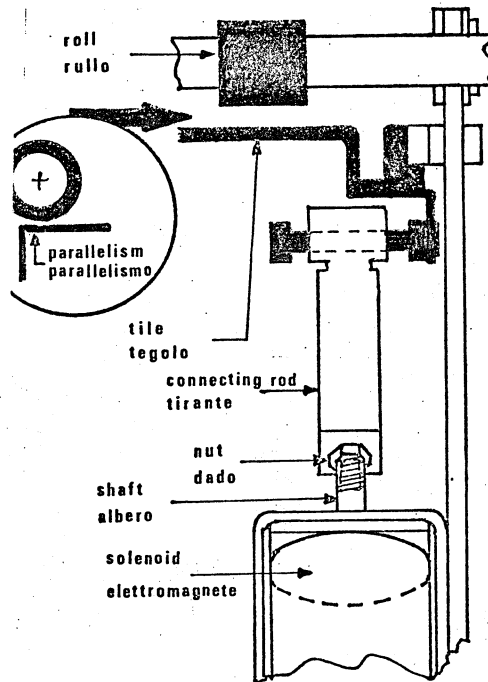

Fig. 8-27
- . Loosen the connecting rod lock-nut (fig. 8.27)
- . Manually simulate the solenoid operation and rotate the shaft till the required condition is obtained (fig. 8.27)